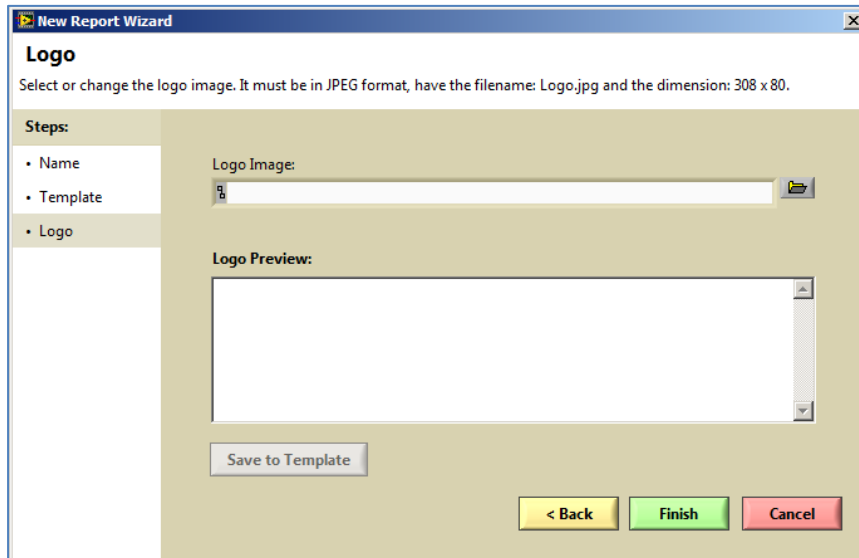

Figure 4.5: The **Logo** Page on the **New Report Wizard**
6. Click **Next >** to proceed to the **Logo** page; see Figure 4.5.